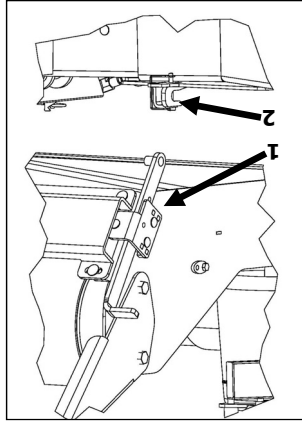

Figure 2.1 Lock of the turntable
Attach the turntable's (Figure 2.1) L-shaped lock (1). Rotate the table as needed so that the latch faces the notch (2) at the front of the frame. Remove the latch pin. Slide the latch toward the notch and insert the latch shaft. Place the pin in the hole of the notch.
At start-up, your bale wrapper must be placed in the most horizontal position possible. Detach the turntable's L-shaped latch (Figure 2.1). If you have the stabilizer option, start the machine and pull the 2 levers of the control to put them in place (Figure 5.2). If the film roll is in place, check if the edge of the plastic is properly held by the clamp of the film cutter. If not, you can attach the plastic directly onto the bale ties.
Your machine can be moved short and medium distances behind a tractor. Fasten the turntable latch (Figure 2.1). Attach the machine and attach a security chain to the ring provided for this purpose on the draw bar. On public roads, follow the traffic regulations of your region for agricultural machines, including those concerning the use of agricultural machines by minors.